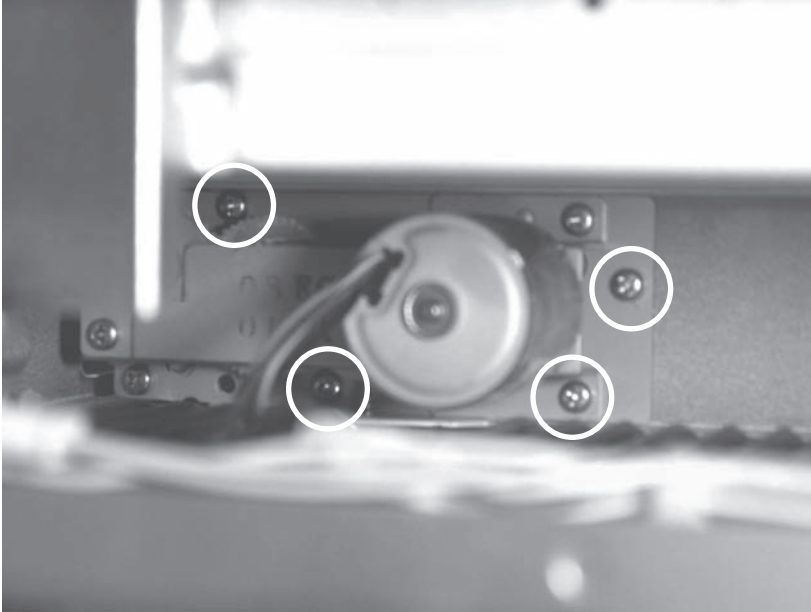

Fig. G-1
5. Remove the (4) screws holding the auto drawer gear to the bottom cavity angle (**Fig. G-1**).